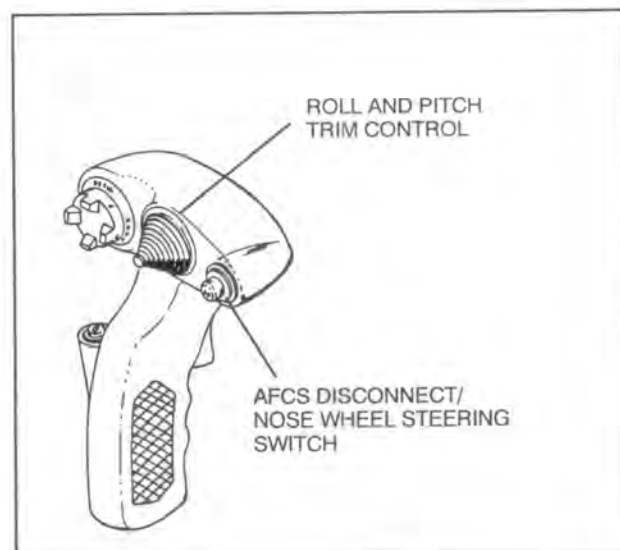

Figure 1-29 Control Stick
1.227 The control stick (Figure 1-29) has an AFCS disconnect button labelled **AP**. Pressing this button immediately disengages the entire AFCS including stab aug. All switches, except for **STANDBY**, return to **OFF**.